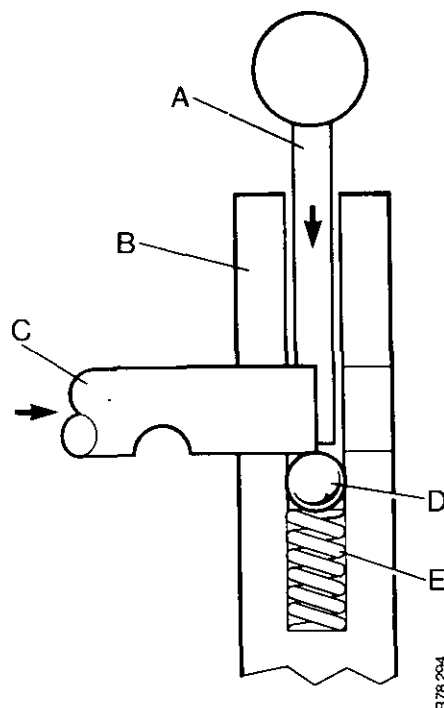

FIGURE 76. INSTALLING DETENT BALLS
25. Enter the first/reverse selector rod into the front end plate. Use the tool shown in Figure 76 to install the detent ball as follows: